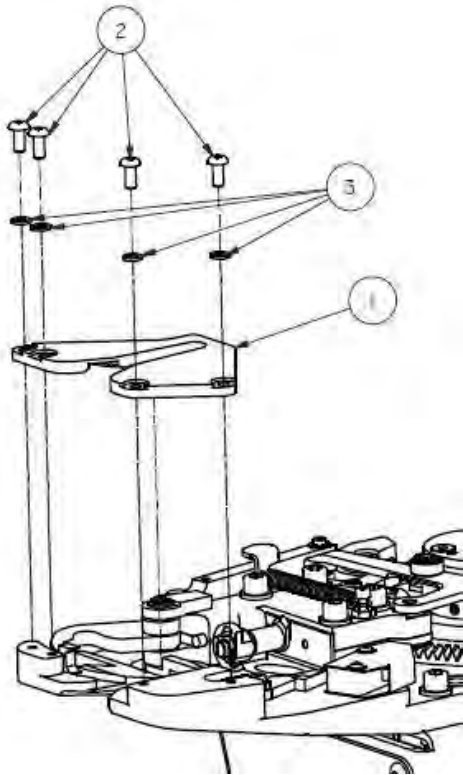
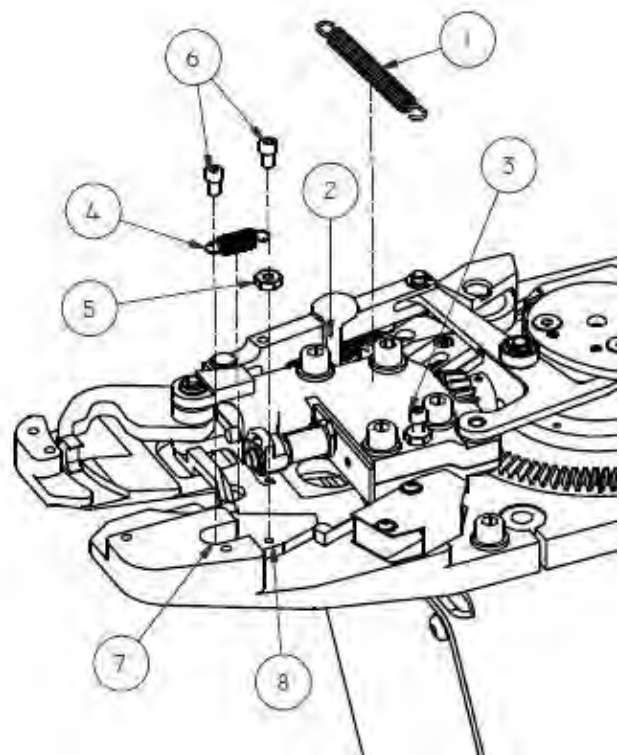
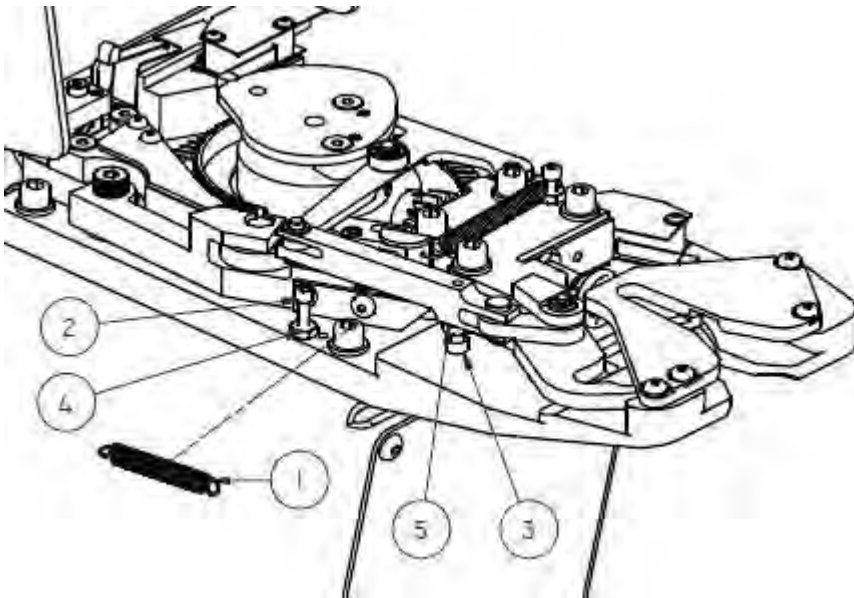
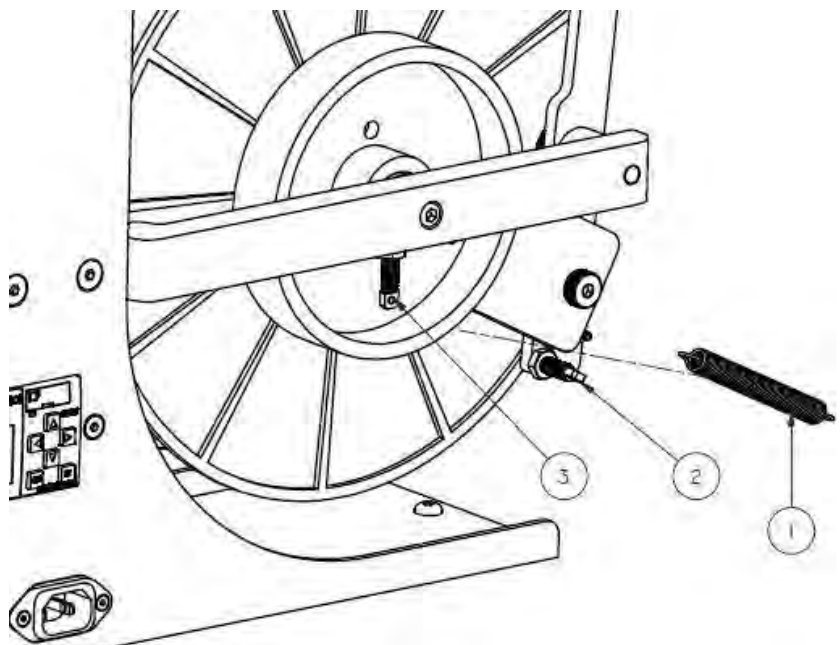

Figure 6.1.1 Throat Plate
Figure 6.1.2 Trigger and Pivot Arm Springs
Figure 6.1.3 Pack Arm Spring
Figure 6.1.4 Payout Spring
1. Tie broke around bundle and material is left in twister hook.	1. Pull material out of twister hook. The throat plate may need to be removed to completely remove material. See Figure 6.1.1 . Ensure there is no damage to the threaded tie material or the twister hook.
(Reference Figure 6.1.1, Figure 6.1.2, Figure 6.1.3, & Figure 6.1.4)
1. Pivot arm spring (1, Figure 6.1.2) – This spring puts pressure on the pivot arm and allows the feed roller to pinch tie material against the feed drum.
- 1.1 To remove, grab the spring and unhook it from the fastener (3, Figure 6.1.2) attached to the pinion block assembly. Then unhook the other end from the pivot bracket (2, Figure 6.1.2) on the pivot arm. (A needle-nose pliers may be useful to do this)
2. Trigger spring (4, Figure 6.1.2) – This spring pulls the trigger back to its starting position.
- 2.1. To remove, the throat plate (1, Figure 6.1.1) will need to be removed.
- 2.2. Remove the cap head screw (6, Figure 6.1.2) located under the throat plate attached to the base plate.
- 2.3. Remove the cap head screw (6, Figure 6.1.2) located on the trigger. The hex nut (5, Figure 6.1.2) will need to be loosened first before the screw will loosen.
When attaching the spring, ensure the cap head screws (6, Figure 6.1.2) are not tightened too tight and pinch the spring or spring hooks. This could cause damage and premature wear.
3. Pack arm spring (1, Figure 6.1.3) – This spring pulls the pack arm back to its starting position and puts pressure on the linkages allowing the bearing on the actuator weldment to contact the cam.
3.1. To remove, use needle-nose pliers to unhook the spring from the fastener (3, Figure 6.1.3) attached to the bottom of the linkage as well as the fastener (2, Figure 6.1.3) attached to the base plate.
5. Payout spring (1, Figure 6.1.4) – This spring puts pressure on the brake pad allowing the pad to stop the spool from unwinding during operation.
5.1. To remove, disconnect the hook ends from the threaded anchors (2, 3, Figure 6.1.4) attached to the payout arm and brake pad. Needle-nose pliers may be useful to do this
2. First, the throat plate must be removed. Reference *Figure 6.1.1*.
3. Next, disconnect the pivot arm spring. Reference *Figure 6.1.2* and *Pivot arm spring* in *Section 6.1 Springs*
4. Then, disconnect the trigger spring from the base plate. Remove the cap head screw (2) to do this.
5. Now, loosen and remove the four cap head screws (3) and lock washers (4) from the base plate.
6. The pinion block assembly and linkages (1) should be free to remove from the base plate.